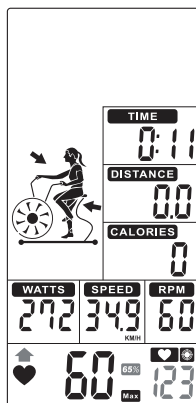

FIGURE 47
- When the heart rate drops below 65%, the ↑ & 65% value will flash. An audible alert will sound every 10s until the user's heart rate reaches more than 65% (Figure 47).